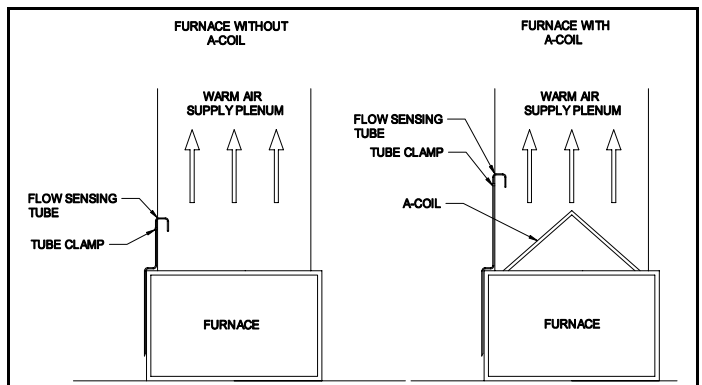

Figure 4
5. Slide one of the tube clamps onto the "U" shaped end of the tube. Insert the bent end of the tube into the 1/4" hole such that the open end is pointing directly into the oncoming air flow. Mark and pre-drill (if necessary) a mounting screw hole for the clamp. Secure the clamp to the plenum using one of the two remaining sheet metal screws. (See Figure 4)